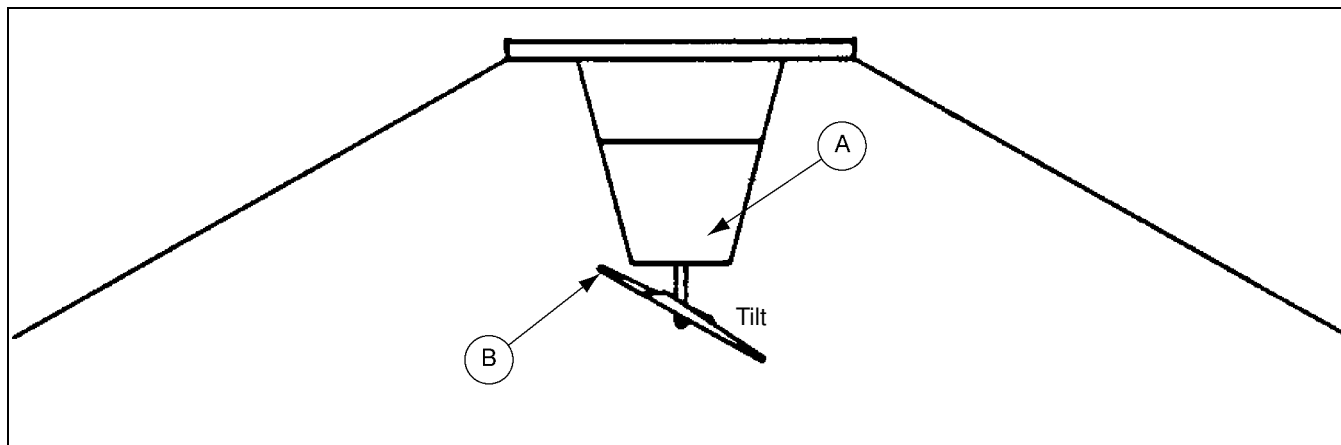

Figure 5A Adjustment of the Tilt
1. Tilt is the adjustment of the entire spreader blade, which controls overall grain spreading. Tilt is adjusted by loosening the two (2) U-bolts that allow the tipping of the blade up and down. This may vary according to bin diameter and fill rate. (See Figure 5A.)